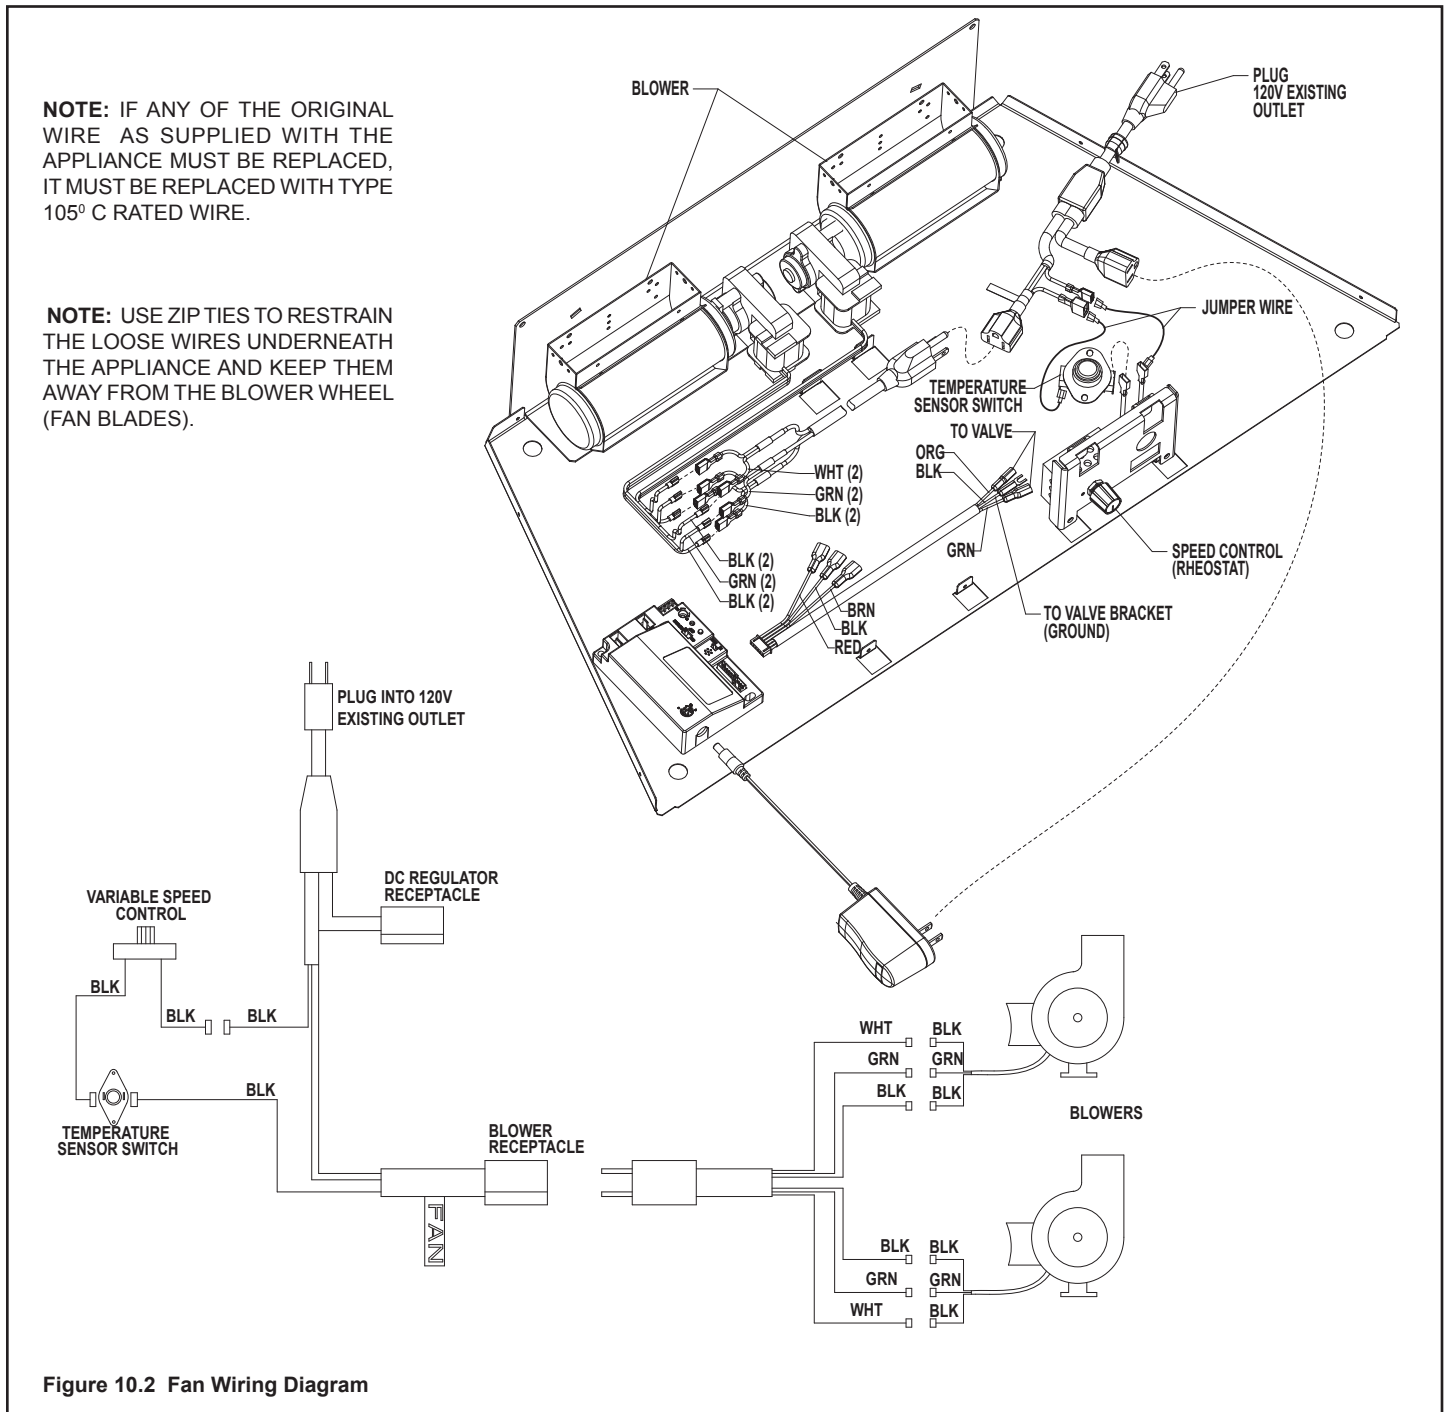

Figure 10.2 Fan Wiring Diagram
- This appliance comes standard with a 120 VAC cord assembly which has a female plug in to accommodate all control options and accessories. See Figure 10.2. This is required for proper operation of the appliance (IntelliFire Plus Ignition). An outlet box may be installed in a bottom back corner of the existing solid fuel masonry or factory built fireplace to plug in the cord assembly, or the supplied power cord may be routed out onto the hearth to a nearby outlet.
- To connect optional accessories, the supplied cord assembly should be used. See Figure 10.2 for a wiring diagram for a blower or remote.